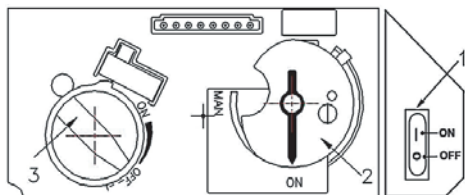
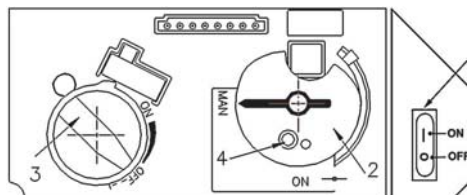

Fig 1
Fig 2
2. SET ON/OFF SWITCH (1) TO "OFF" POSITION.
- Wait five (5) minutes to clear out any gas, then smell for gas, including near the floor. If you smell gas, STOP! Follow "B" in the safety information above on this label. If you don't smell gas, go to the next step.
3. AUTOMATIC IGNITION (fig. 1): Locate the pilot (fig. 3.) inside of firebox at Left Hand side.
- ON/OFF switch (1) in ON position, MAN-knob (2) in ON position; set Flame Adjustment knob (3) to lowest setting (⊖);
- When the pilot is lit, the Flame Adjustment knob (3) will automatically rotate to the highest setting.
4. MANUAL IGNITION (fig. 2): With the window off, locate the pilot (fig. 3)
- ON/OFF switch (1) in ON position, MAN-knob (2) in MAN position;
- Set Flame Adjustment knob (3) to the lowest setting (⊖);
- Push down the metallic core (4) with a pen or similar instrument; this will establish the pilot gas flow;
- Light gas at the pilot (5) with a match;**
- Continue holding down metal core (4) for about 10 seconds; after release, pilot should remain lit;
- If the pilot will not stay lit after several tries, turn the gas control knob (3) to "OFF" (⊖) and call your local service technician or gas supplier.